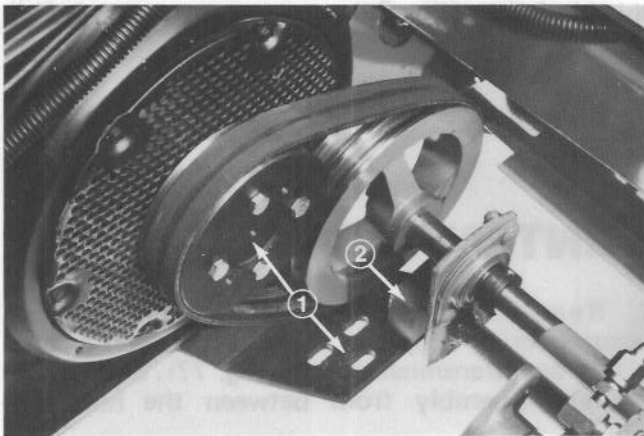
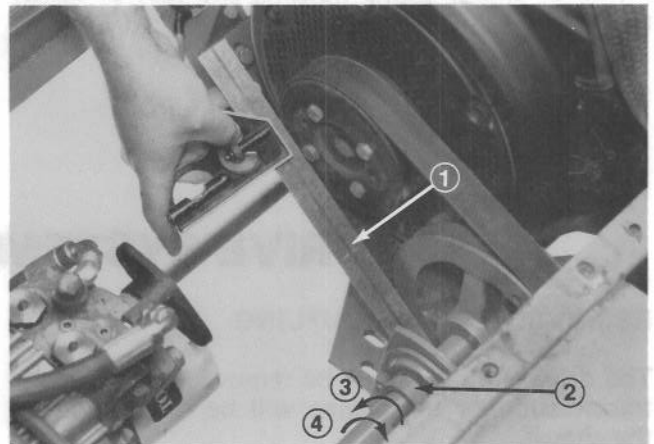

Figure 78
Figure 80
3. Remove three capscrews, flatwashers, lockwashers and nuts securing PTO brake bracket to mounting flange on engine plate (Fig. 78).
6. Install new belts around the PTO shaft pulley and engine pulley (Fig. 78), engage the PTO lever to tension belt and lay a straight edge along the bottom face of the engine and PTO pulleys to check alignment (Fig. 80). If pulleys are aligned within 1/16 inch (1.6 mm), proceed to step 6. If they are not aligned within 1/16 inch (1.6 mm) loosen locking collars on PTO shaft and shift shaft and pulley until proper alignment is achieved (Fig. 80). Relock collars.